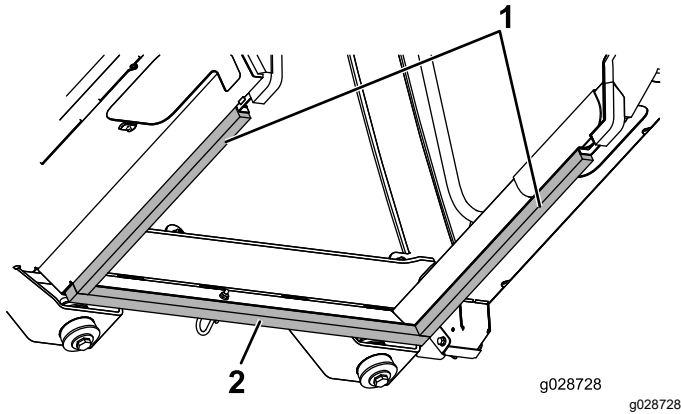

Figure 63
6. Center the front-foam seal on to front panel (Figure 63).
- Press the forward edge of the side front foam seal into the front foam seal and align the inner edges of the foam seal with the inner edges of the seal panels of the cab frame (Figure 63).